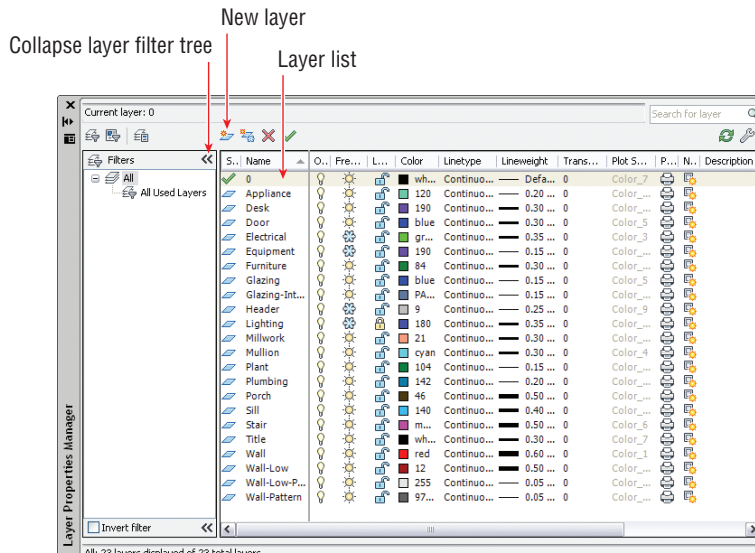

FIGURE 6.26 Layer Properties Manager
2. Click the Layer Properties tool in the Layers panel. The Layer Properties Manager appears (see Figure 6.26).